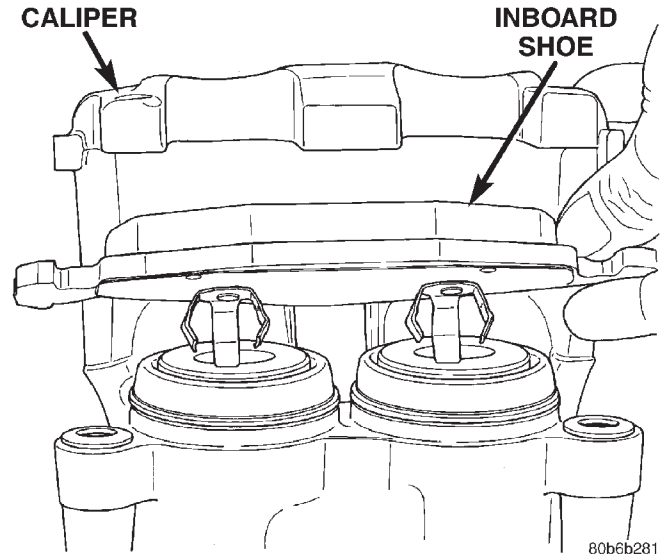

Fig. 30 Inboard Brake Shoe
(8) Secure caliper to nearby suspension part with wire. **Do not allow brake hose to support caliper weight.**
(9) Remove the inboard brake shoe from the caliper (Fig. 30).
(1) Install the inboard brake shoe onto the caliper (Fig. 30).